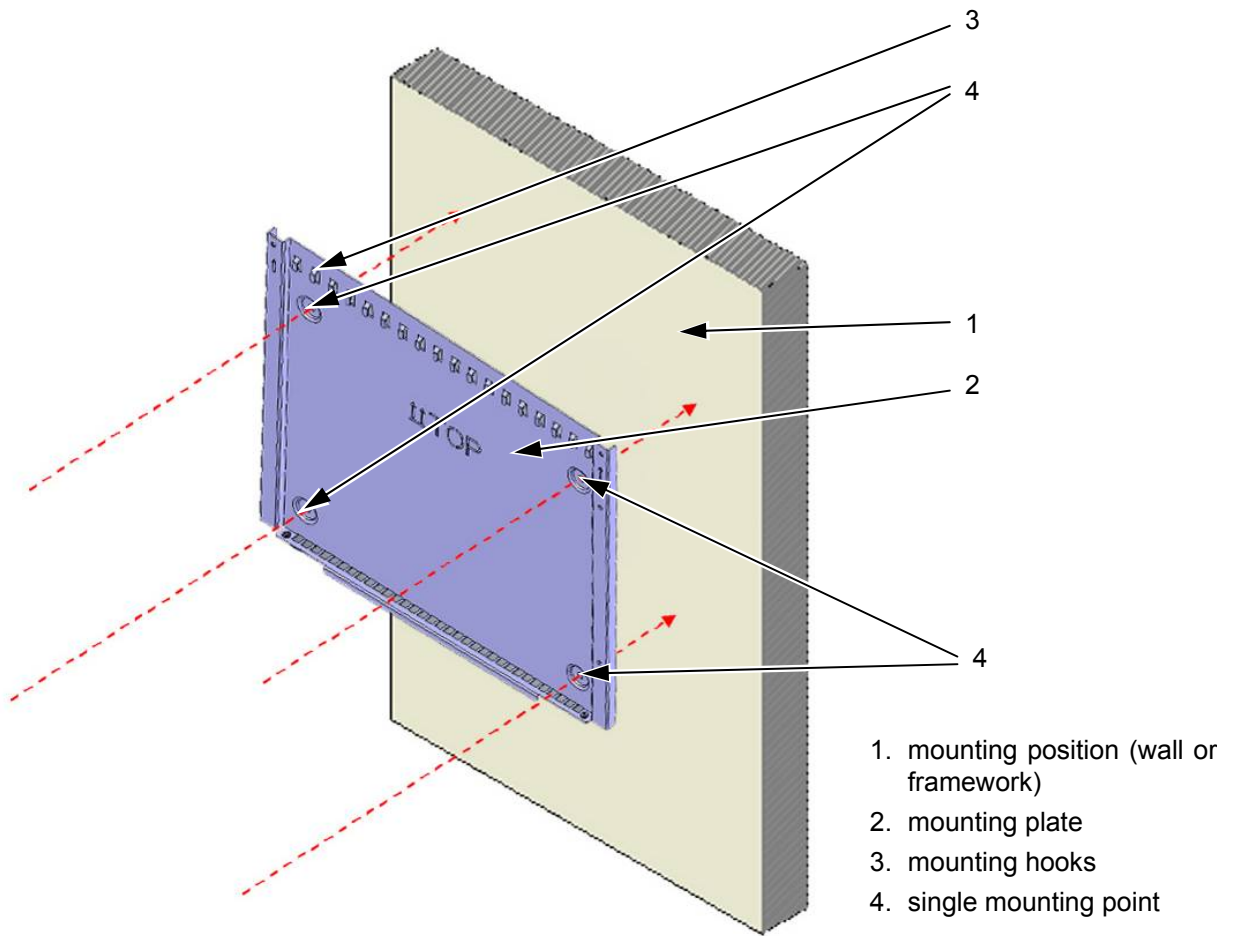

Fig. 6 Installation of mounting plate
- According to Fig. 6 attach the mounting plate with adequate mounting material (see chapter 3.5.1). As required use adequate washers.